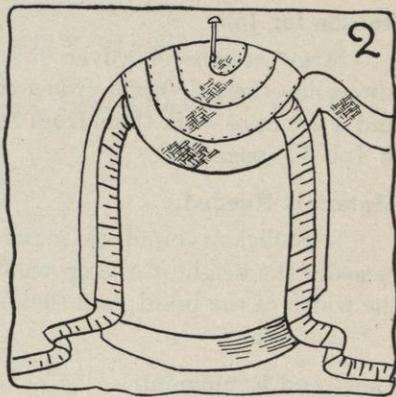

FIG. 2.
- Pin the tip on to the block (see Figure 2).